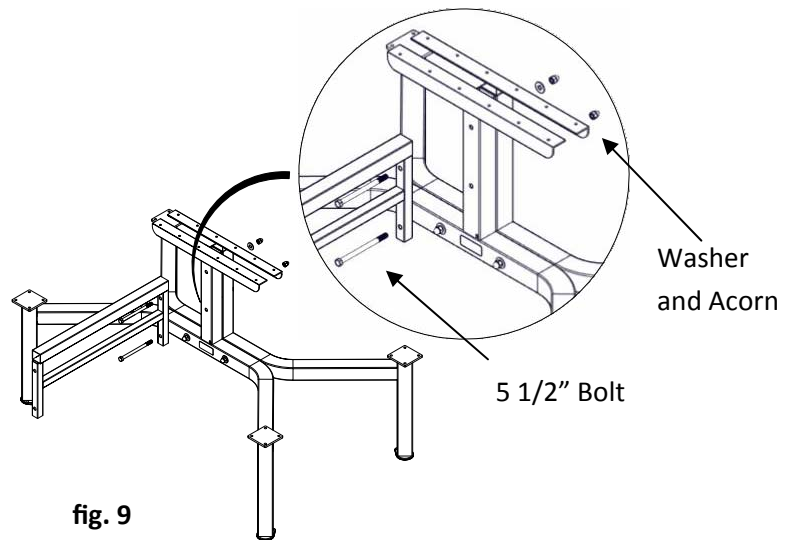

fig. 9
- Align holes in coupling with holes in vertical supports of your 2 leg frames. Using 3/8"-16 x 5.5 hex head cap screw, 3/8" washers, and acorn nut, assemble the coupling and leg assembly together. **(fig. 9)**